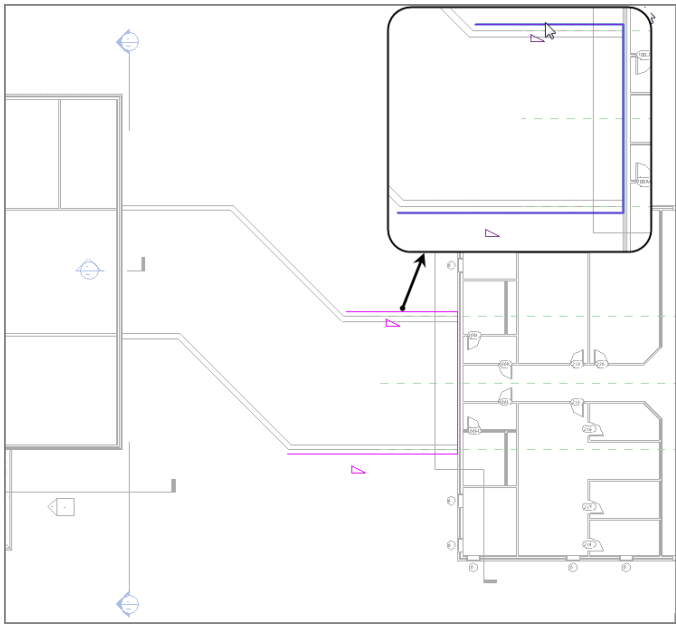

FIGURE 7.27: Keep these three lines.
3. Delete every line other than the three shown in Figure 7.27.